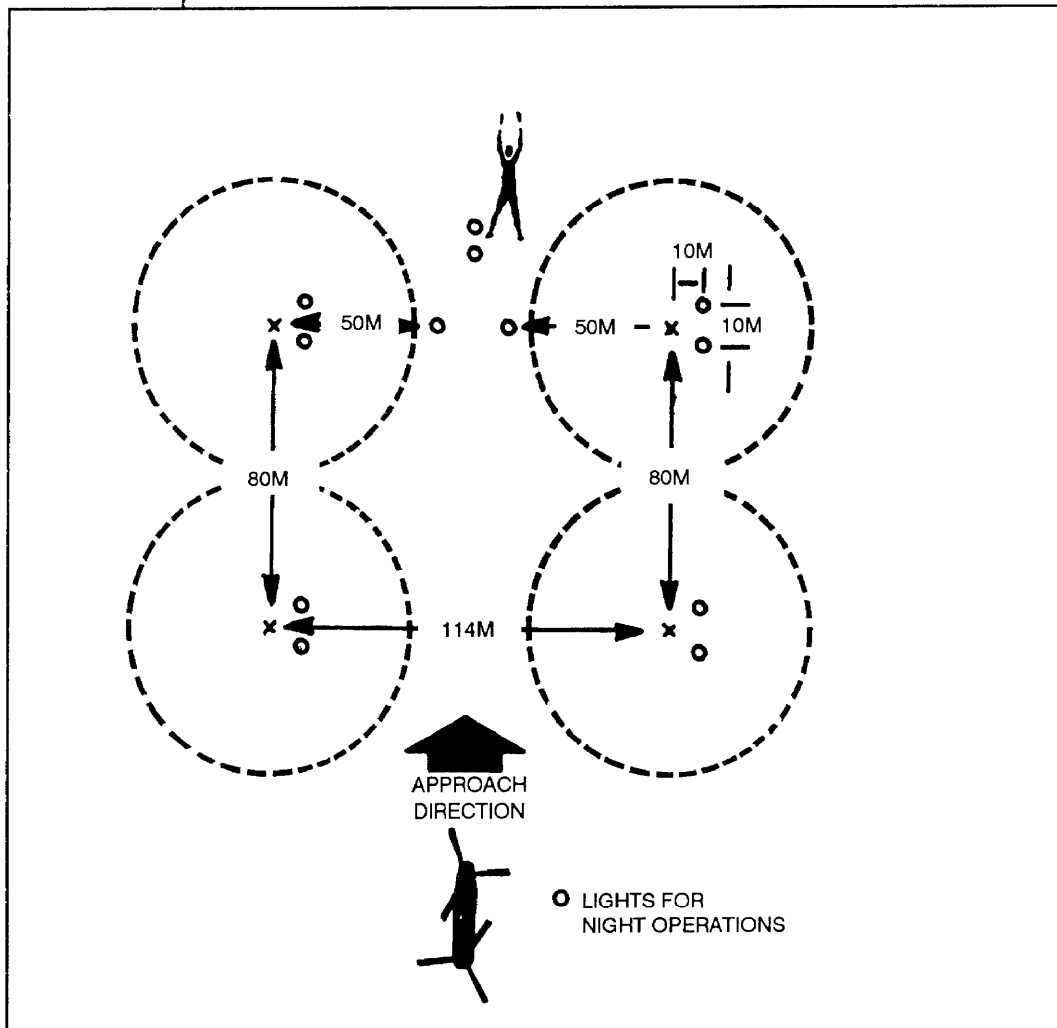

Figure I-1. Landing formation for large helicopters.
(1) During a daylight approach, the slope should not exceed 7 degrees (1 in 8) if the helicopter is to land. A greater slope may be acceptable for hover operations.
(2) During a night approach, a reverse slope as viewed from the approach path is not normally acceptable. Forward or lateral slopes should not exceed 3 degrees (1 in 19).
e. Often large helicopters do not fly in standard flight formations and are received one or two at a time. In such cases, the configuration in Figure I-1 is suggested. Each aircraft initially approaches and hovers, and is then guided to its cargo pickup point by the signalman.